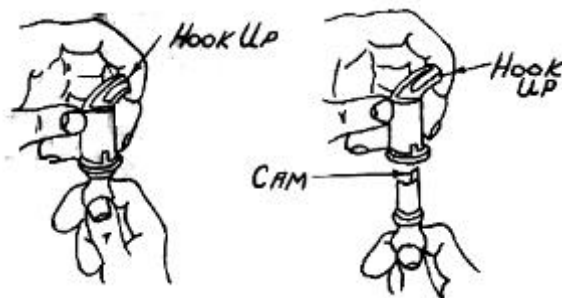

Figure 16--Rear Compartment Lock Details
2. Remove the screws holding the shield, see Figure 16. Take out the cotter pin and washer to release the link.
To replace the trunk or rear compartment lock, assemble the parts as shown in Figure 16.